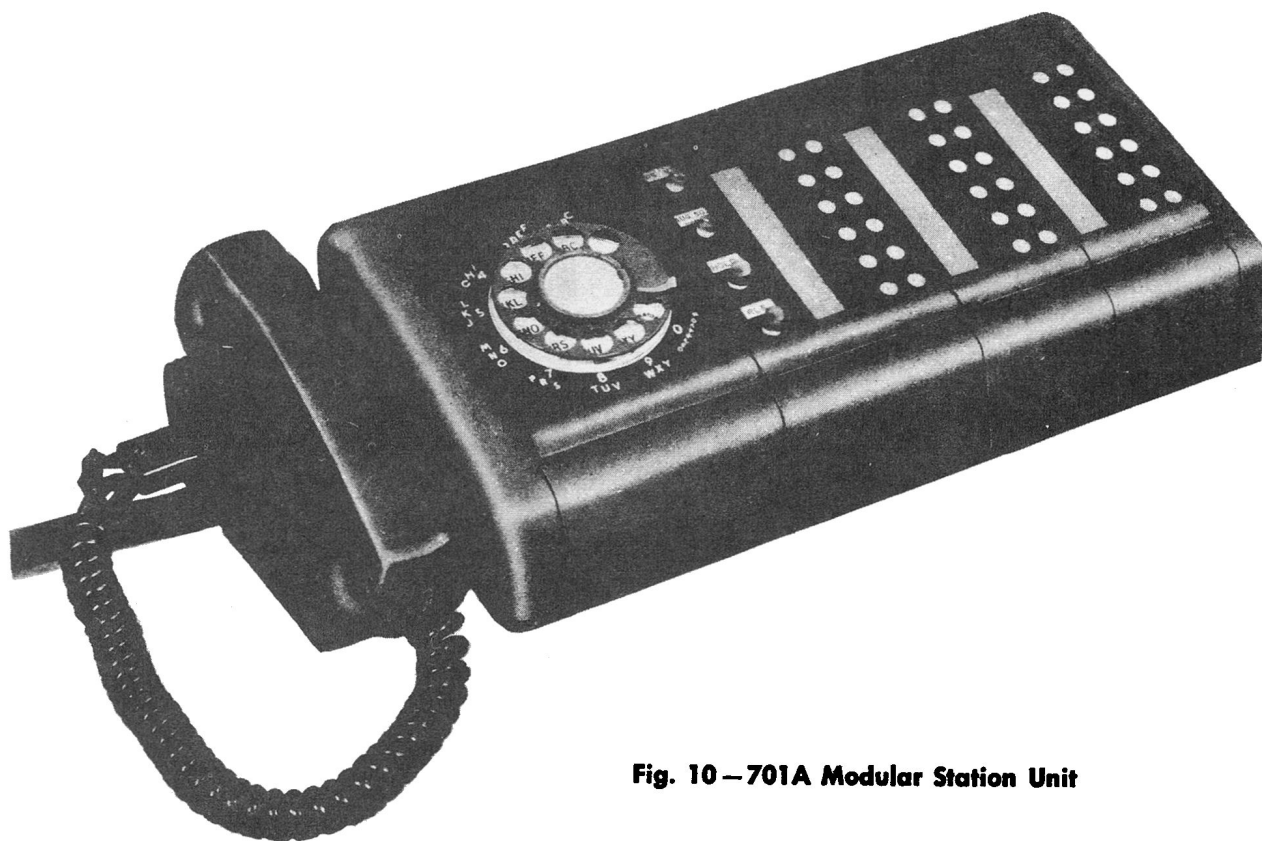

Fig. 10 — 701A Modular Station Unit
4.02 The 700A modular station unit consists essentially of a 751A apparatus unit, a 700D originating key, and one 701B supplementary key. The unit and keys are connected together, and enclosed in apparatus cases complete with a handset mounting and jack (Fig. 10). A 30-foot length of inside wiring cable, wired to the terminals, is a component part of the unit.